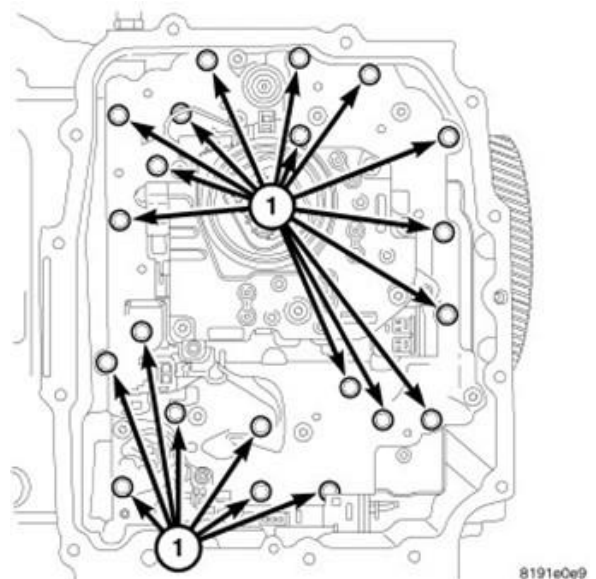

Figure 14 – Valve Body
24. Remove valve body bolts (Figure 14).